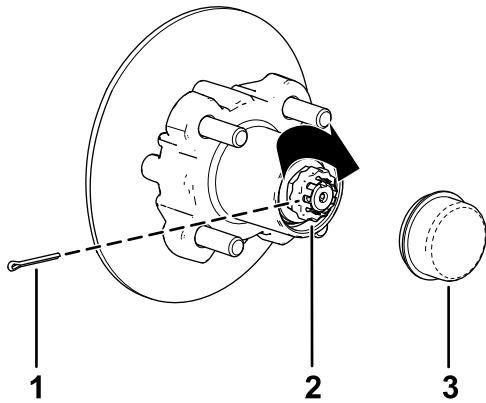

Figure 38
8. Install the retainer over the nut and check the alignment of the slot in the retainer and the hole in the spindle for the cotter pin (Figure 38).
9. Install the cotter pin and bend each legs around the retainer (Figure 38).
10. Install the dust cap onto the hub (Figure 38).